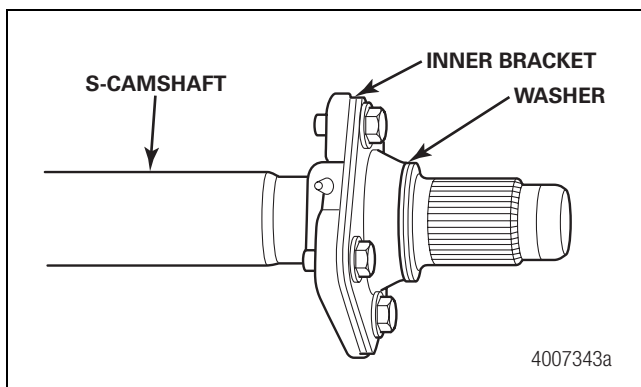

**Figure 37**
**NOTE:** The replacement axle will come with the S-camshaft bushings in the brake spider and inner S-camshaft bracket. Figure 37.